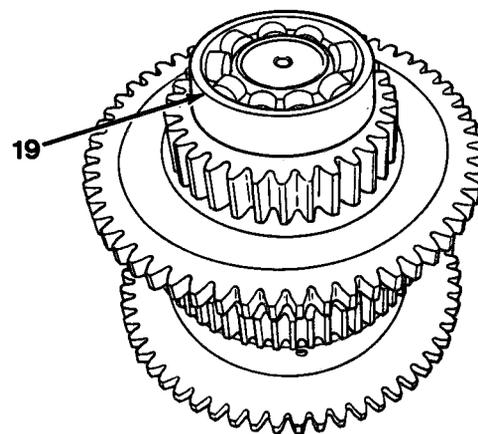

Figure 11-6
15. Using a puller, remove bearing (19, Figure 11-6).